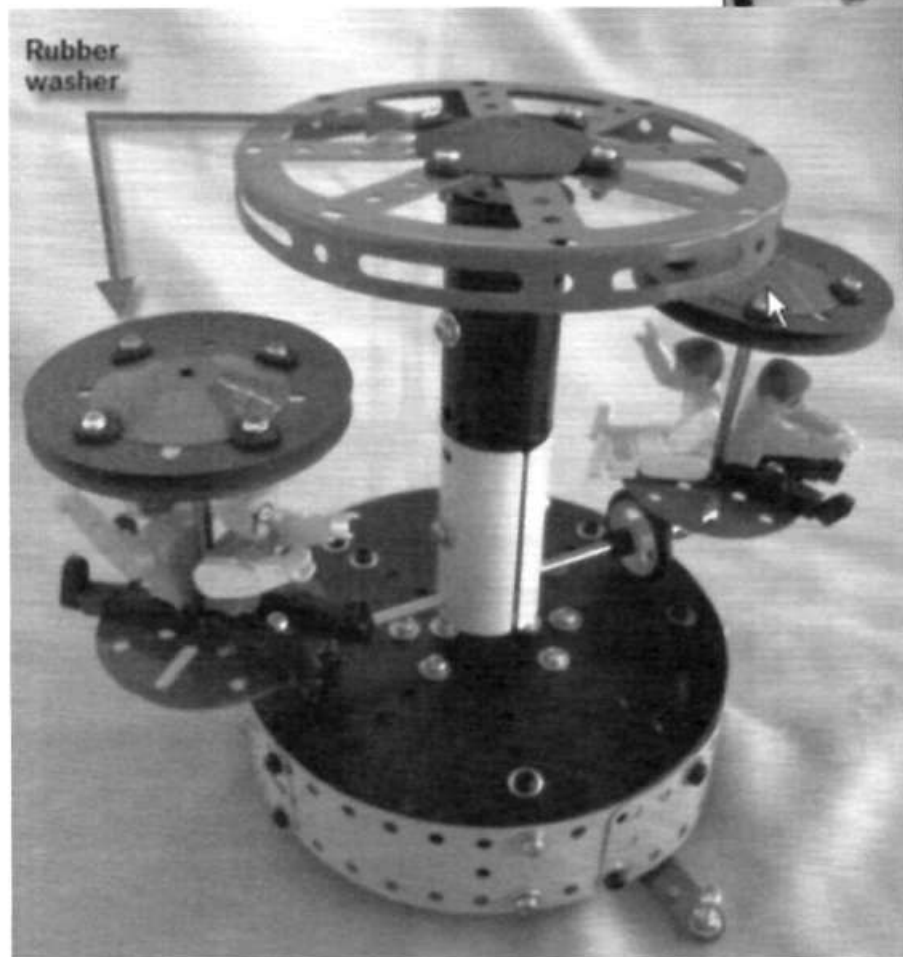

Fig 3
3. A rubber washer holding the P/N 187a Conical Disc in place. For this I cut the grommet in half and this is particularly useful when the conical disc is not flush on its base e.g. if there are bolt heads underneath (see Fig. 3).